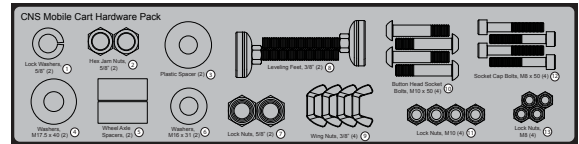

Fig. 1
1. Locate all of the mobile cart components shown on page 1. All of the hardware needed to assemble the mobile cart is located in the included hardware pack (see Fig. 1). In order to easily identify the hardware used in each of the following steps, the different pieces of hardware are numbered on the hardware pack and in the figures. If you are missing the hardware pack or any of the other mobile cart components, call the SawStop Service Department at 503-582-9934 for replacements.